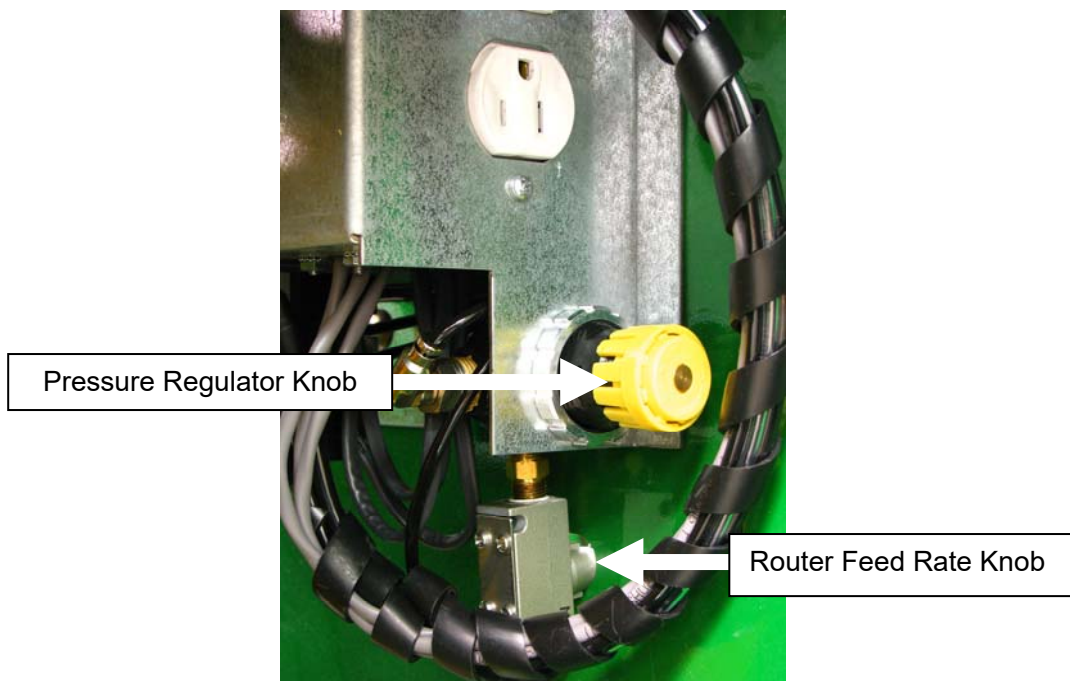

Fig 27
1. Open the rear door and locate the Pressure Regulator mounted to the Control Box. **See Fig 27.**